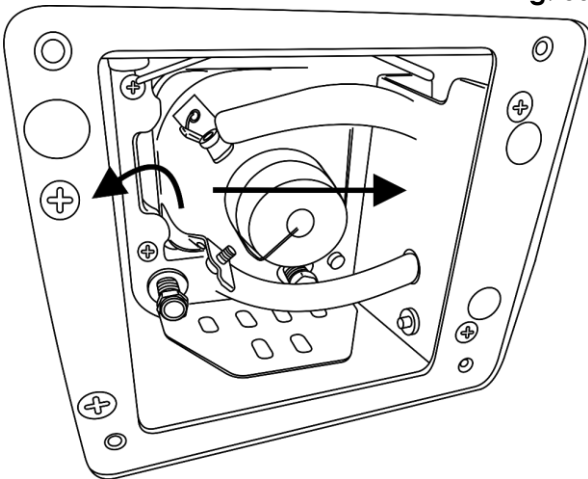

Fig. 07
- 08) Push the lamp to the right and lock its left-hand side in position (fig. 07).